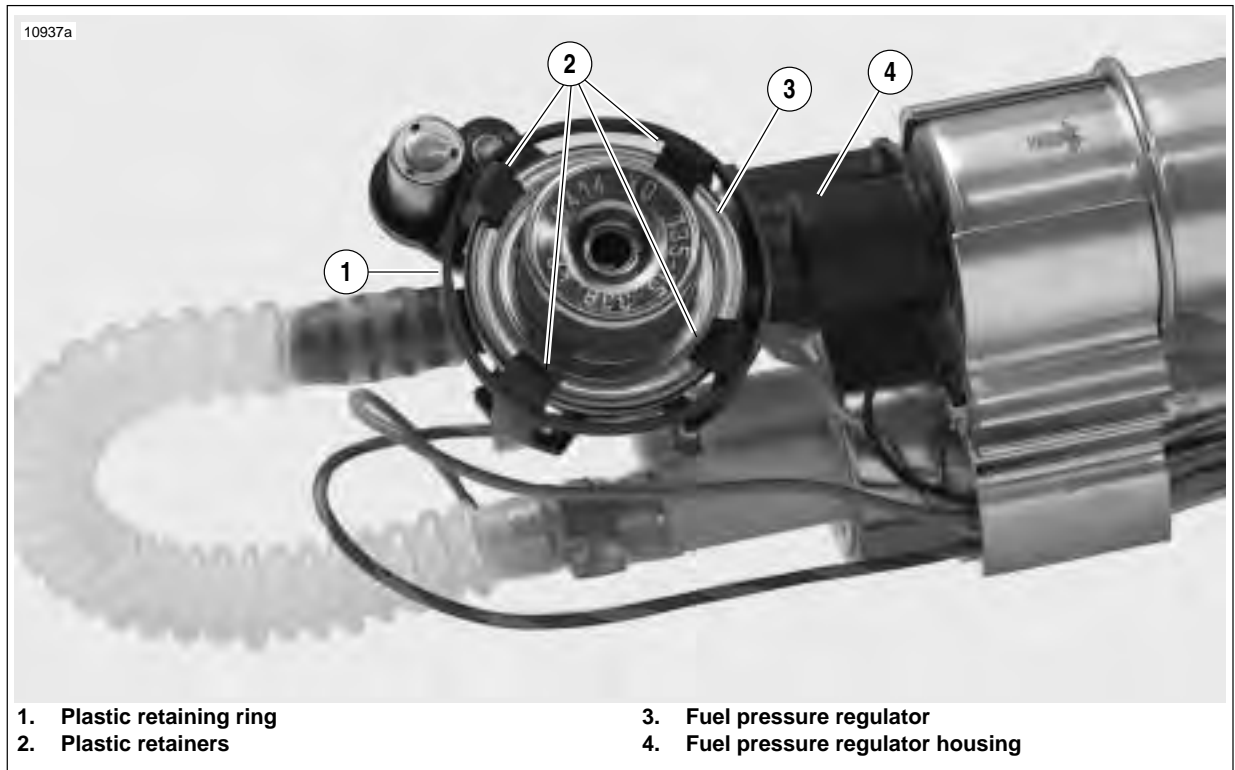

Figure 4-94. Fuel Pressure Regulator
2. See Figure 4-94. Remove the plastic retaining ring (1) securing the four plastic retainers (2) holding the fuel pressure regulator (3) in place. Spread the four clips and detach regulator (3) from regulator housing (4).
5. Install plastic retaining ring (1).